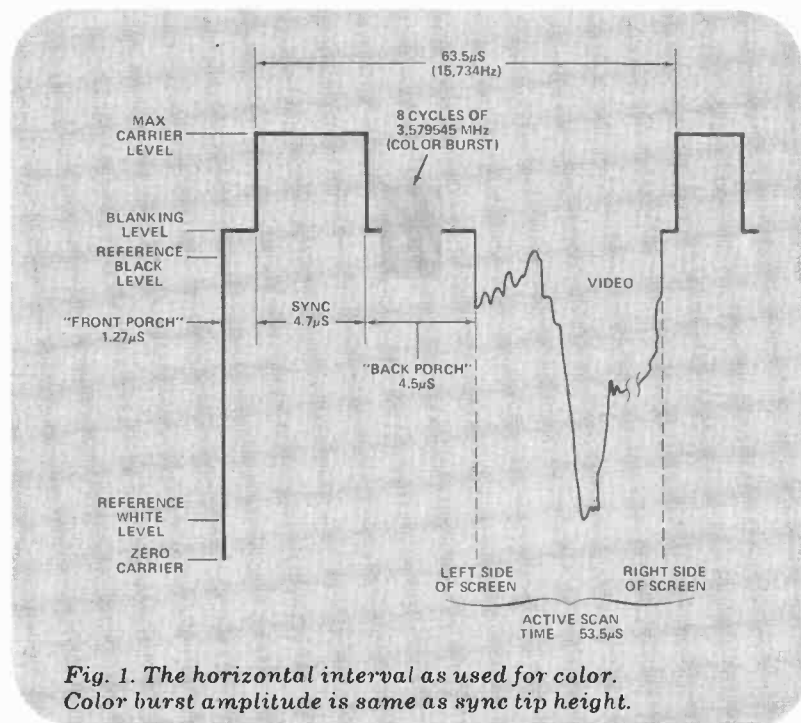

Fig. 1. The horizontal interval as used for color. Color burst amplitude is same as sync tip height.
**Horizontal Interval.** The horizontal interval, illustrated in Fig. 1, consists of several portions, the most outstanding of which is the sync tip that synchronizes